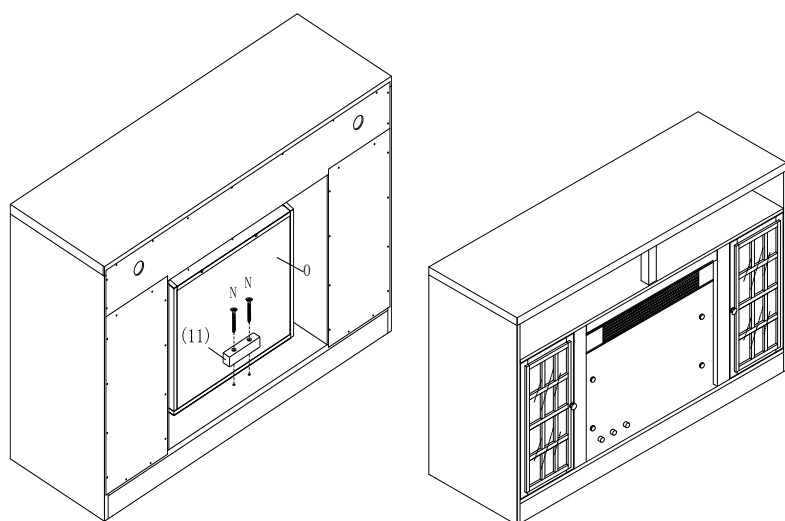

Figure 6
INSERT THE FIREBOX FROM THE BACK OF FIREPLACE. MAKE SURE FIREBOX IS PRESSED TIGHTLY AGAINST THE ASSEMBLED UNIT. INSERT 2PCS FLAT HEAD LONG SCREWS (N) THROUGH PREDRILLED HOLES ON FIXED WOOD (11) AND TIGHTEN INTO CORRESPONDING HOLES ON BACK OF FIREBOX. AS FIGURE 6 SHOWN.